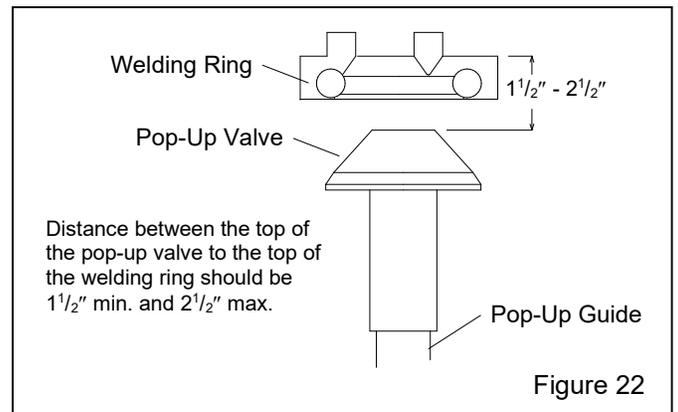

Figure 22
6.7.8 Refer to Figure 22 to check the pop-up height. If the pop-up sits too low, misalignment could occur when the pop-up comes up against the seal. If the pop-up sits too high, it will take longer for abrasive to flow through the opening when filling. Adjust the height by replacing the guide with one that is longer or shorter.